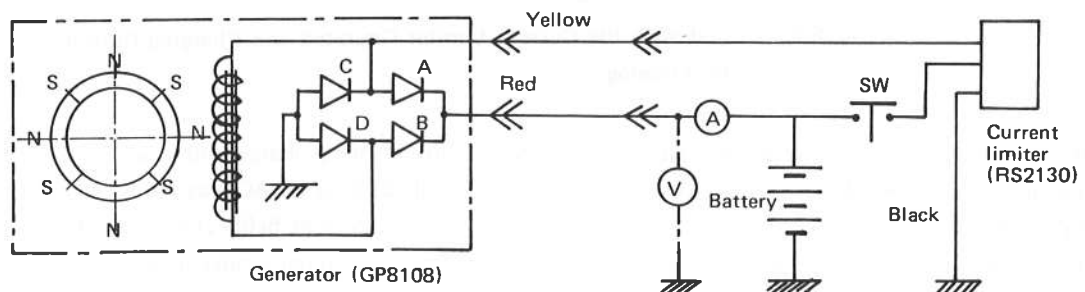

Fig. 6.1 Connecting Diagram (GP8108, RS2130)
(1) Performance inspection of the generator coupling with the current limiter at the condition shown in Fig. 6.1.
Refer to the circuit diagram of Figs. 6.1 and 6.4